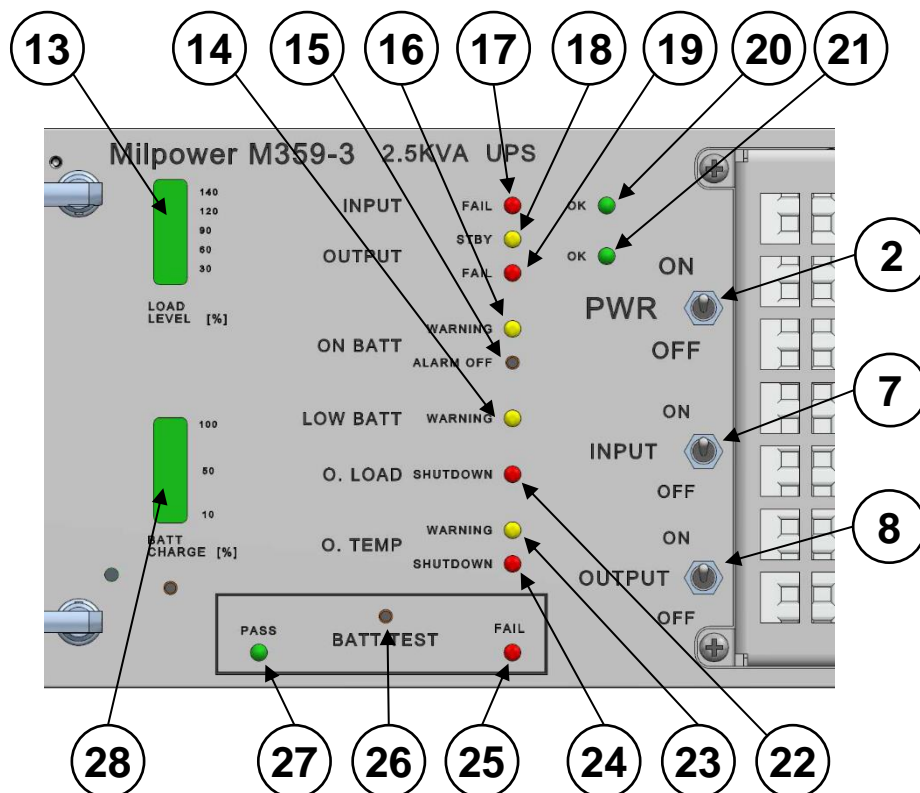

Figure 4: Front Panel, Indicators and Controls
1. Visual Indicators and Controls (for detailed view see Figure 4)
3.2. Front Panel: Indicators and Controls (Figure 4)